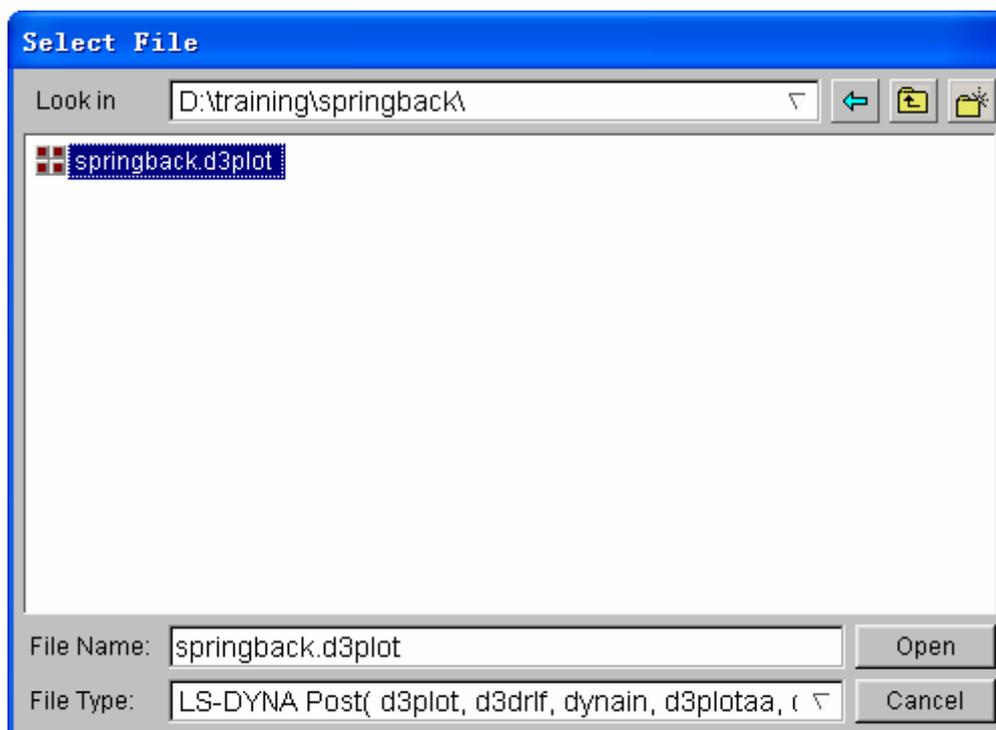

Figure 6.16 Select File dialog box
1. Select **File**→**Open** in the eta/POST menu bar. The SELECT FILE dialog box is illustrated in Figure 6.16.